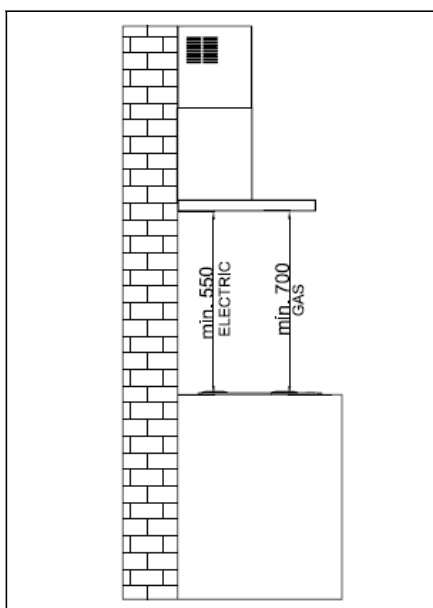

Fig. 1
- The extractor hood can be installed over gas and electric cook top. The recommended minimum installation height from the bench top to the bottom of the hood is 700mm (gas range) and 550mm (electric range) (Fig. 1).